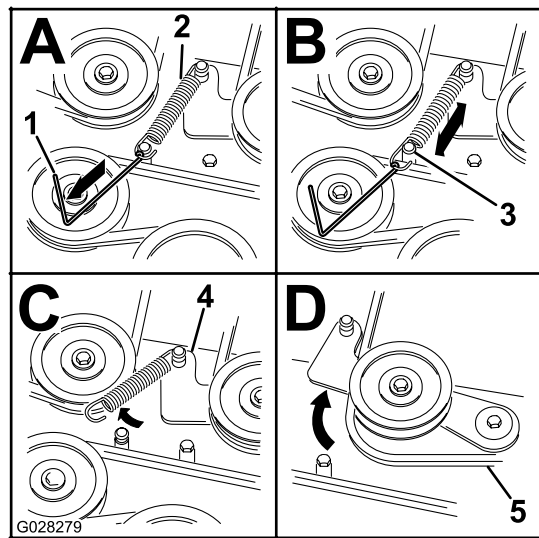

Figure 69
7. Using a spring removal tool, (Toro Part No. 92-5771), remove the idler spring from the deck post to remove tension on the idler pulley (Figure 69).
10. Install the new belt around the mower pulleys and the clutch pulley under the engine (Figure 69).
11. Using a spring-removal tool, (Toro Part No. 92-5771), install the idler spring over the deck post and placing tension on the idler pulley and mower belt (Figure 69).